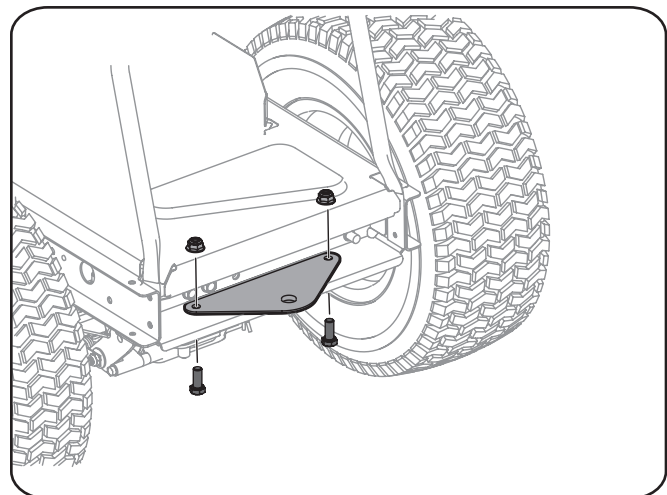

Figure 3-6
- Position the hitch plate, packed with the loose parts, with the flat side up as shown in Figure 3-6. Secure using the two bolts and hex nuts previously removed.